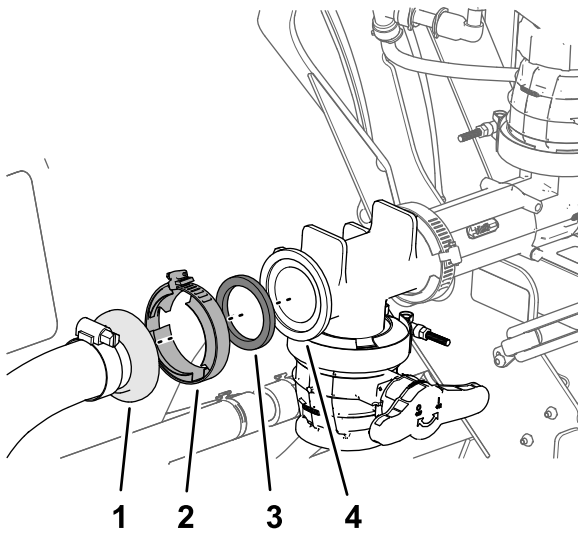

Figure 31
7. Attach the straight-barb fitting of the eductor hose assembly to the flange of the T-fitting for the eductor using a gasket and flange clamp, and tighten the clamp by hand (Figure 31).